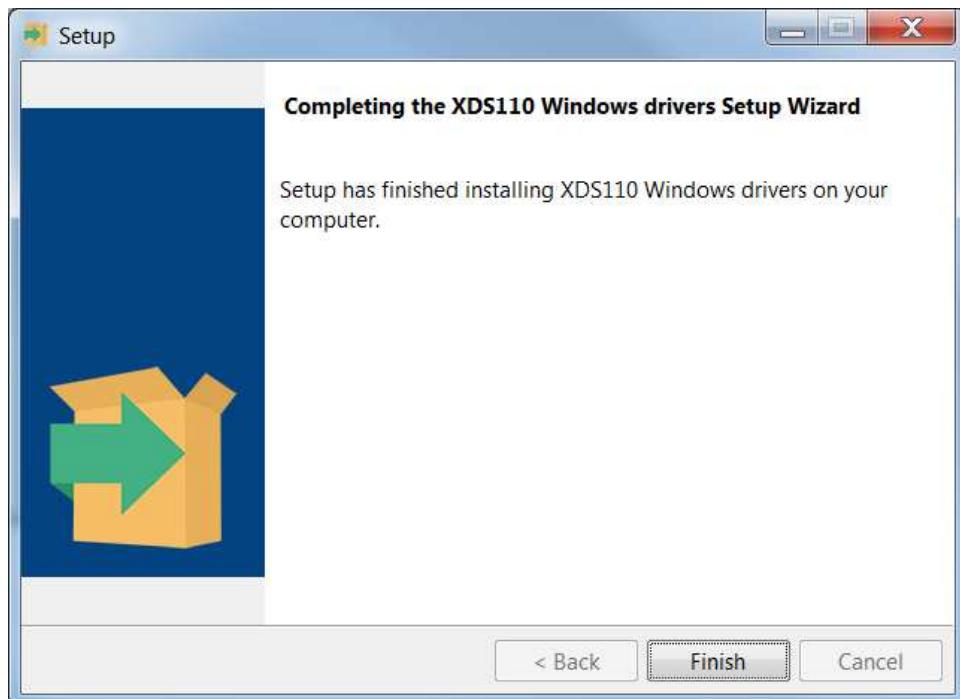

Figure 2-10. Complete Installation
4. Click Finish when installation is done, as shown in Figure 2-10.